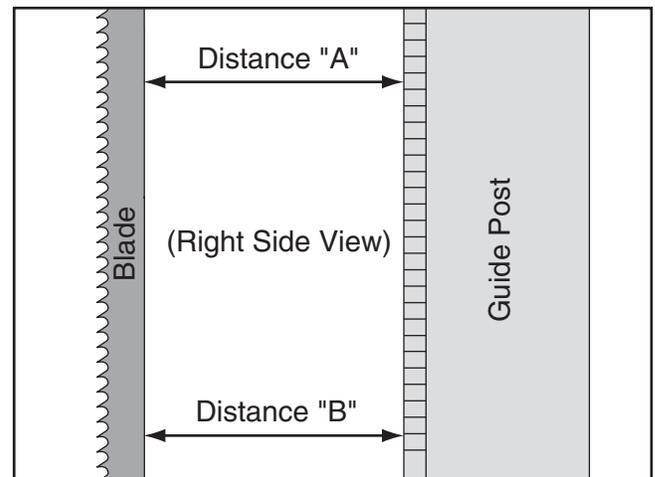

Figure 68. Example of measuring distance between rack and blade at top of guide post.
- Measure the distance "A" between the top front face of the guide post rack and the back of the blade (see **Figure 68**).
- Measure the distance "B" between the bottom front face of the guide post rack and the back of the blade (see **Figure 68**).